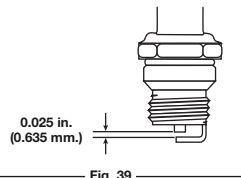

Fig. 39
- Replace cracked, fouled or dirty spark plug. Set the air gap at **0.025 in. (0.635 mm)** using a feeler gauge (Fig. 39).